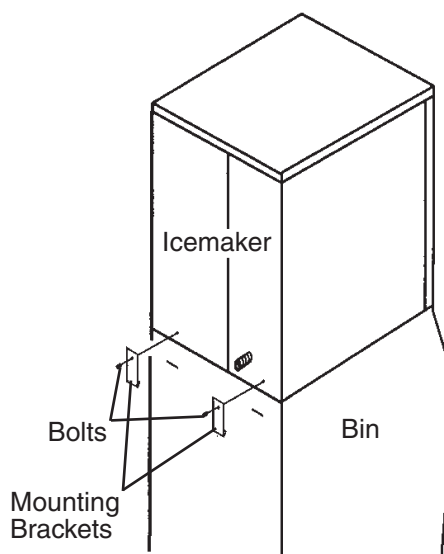

Fig. 2
- 4) Secure the icemaker to the storage bin by using the 2 mounting brackets and the bolts provided. See Fig. 2.